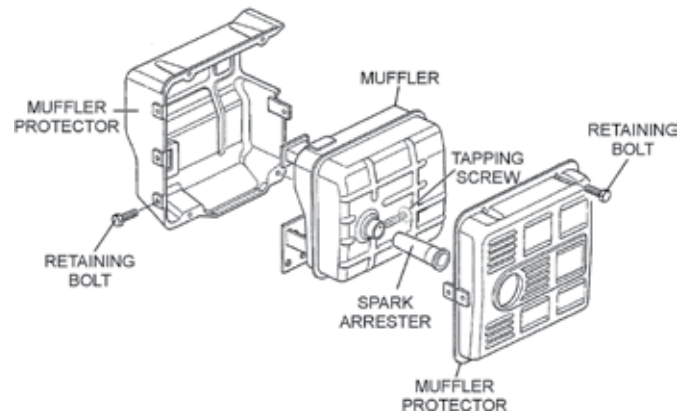

Figure 36. Spark Arrester Removal
1. Remove the muffler protector retaining bolts (Figure 36), then remove muffler protector.